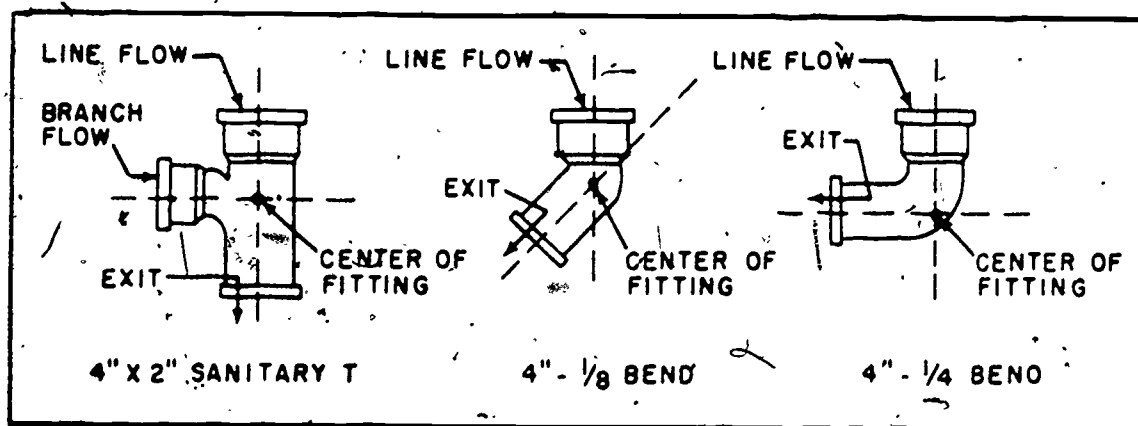
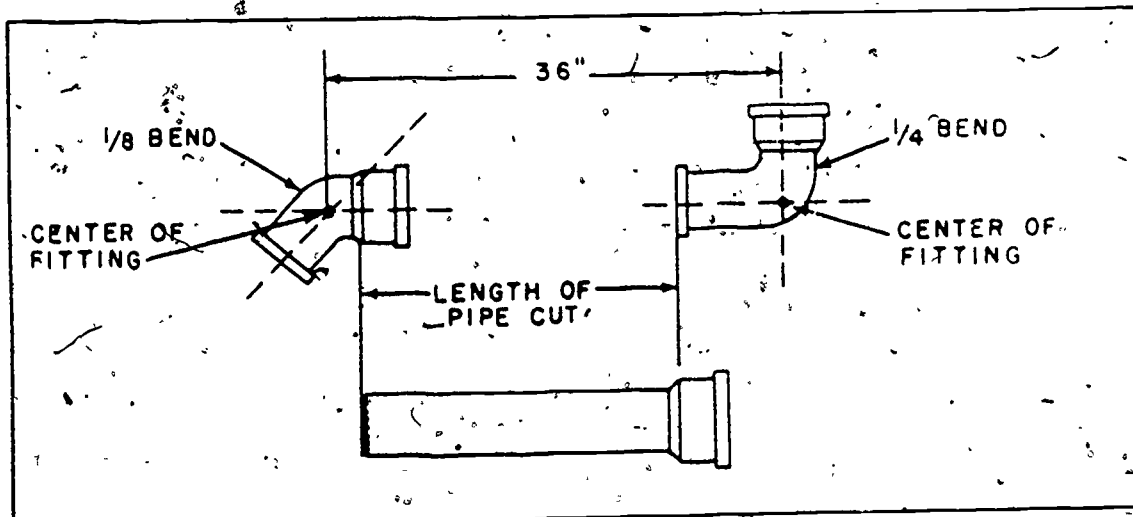

Figure 4-1. Center measurement for cast iron fittings
Figure 4-2. Determining the length of pipe.
**Measuring cast-iron soil pipe.** It is important that you learn how to locate the center of fittings. The center of a fitting is that point where the lines of flow through the fitting intersect each other, as shown in figure 4-1. In a drainage system, suppose you are going to join a 1/4-bend and a 1/8-bend fitting with a piece of soil pipe and the center-to-center measurement must be 36 inches. You can see that the piece of pipe will be less than 36 inches because the fittings will take up part of the overall measurement, as shown in figure 4-2.